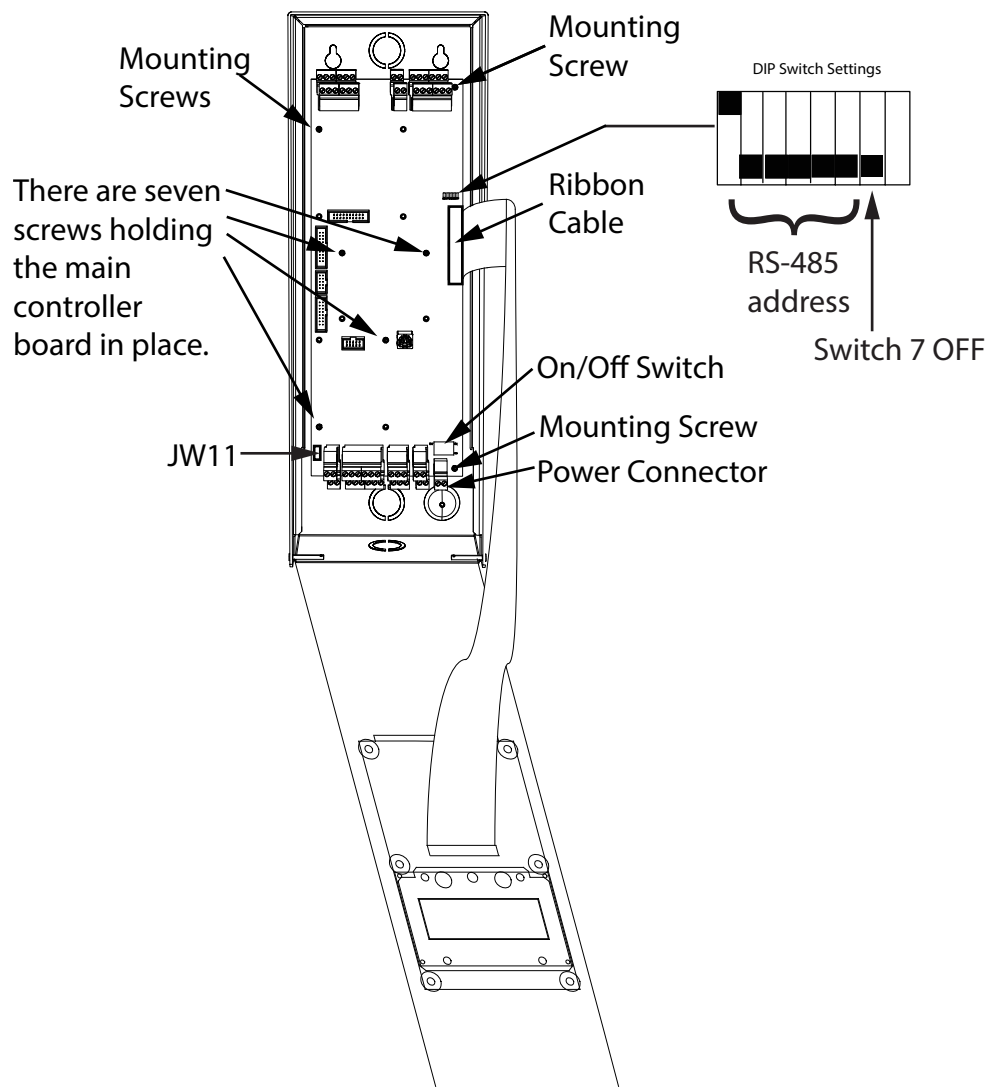

Figure 5 Installing on a non-Touch Screen unit
1. Set DIP switch 7 to OFF. See Figure 5.